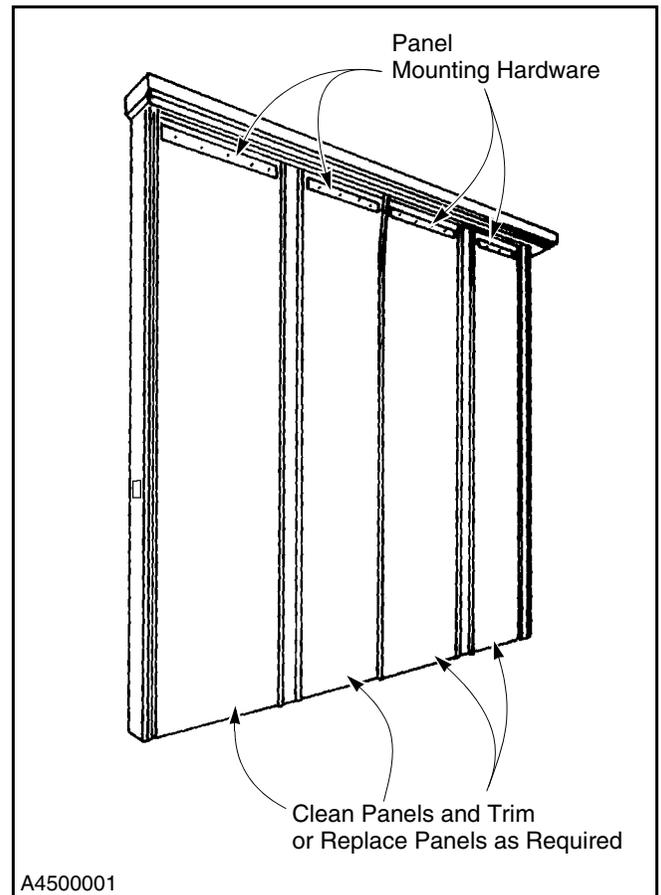

Figure 9
1. Check panel alignment. The panels should hang vertically and parallel to each other top to bottom. If panels are not in alignment, check for tears in panels or damage to side or center arms which may be causing misalignment. (See Figure 9.) Repair or replace as required. See "PANEL REPLACEMENT" on page 12.)